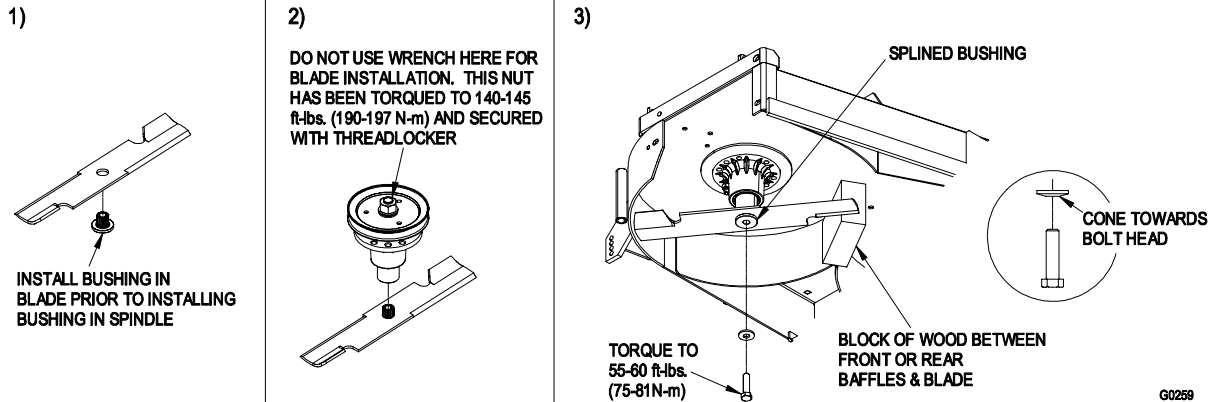

FIGURE 3
d) Re-install the blades (if they were removed) in the following order (See Figure 3):